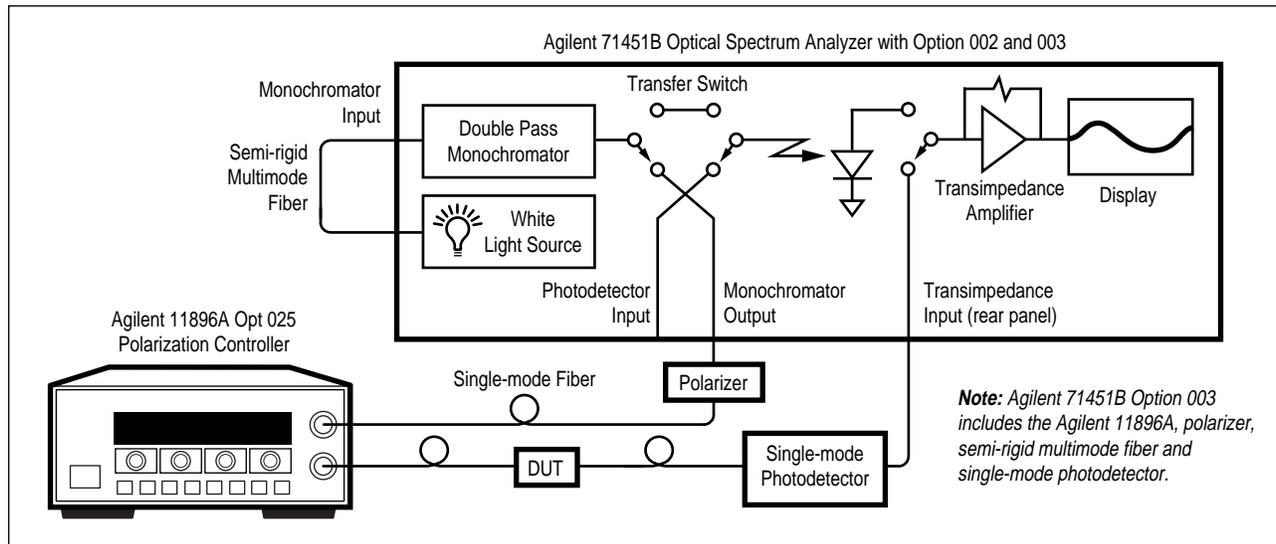

Figure 12. Setup for swept-wavelength PDL measurements using the Agilent 71451B Option 002/003 and the Agilent 11896A
This measurement uses the Agilent 71451B Optical Spectrum Analyzer to monitor changes in DUT insertion loss versus wavelength. Automatically swept wavelength coverage is provided by the built-in, white-light source and monochromator of the Agilent 71451B Option 002 (see Figure 12). The test signal's polarization state is automatically adjusted using the Agilent 11896A Polarization Controller (included as part of the Agilent 71451B Option 003). PDL calculations are done automatically using the built-in down loadable program provided on a memory card (included as part of the Agilent 71451B Option 003).
14. To test additional devices, connect a new test device as shown in Figure 12 and return to step #8.